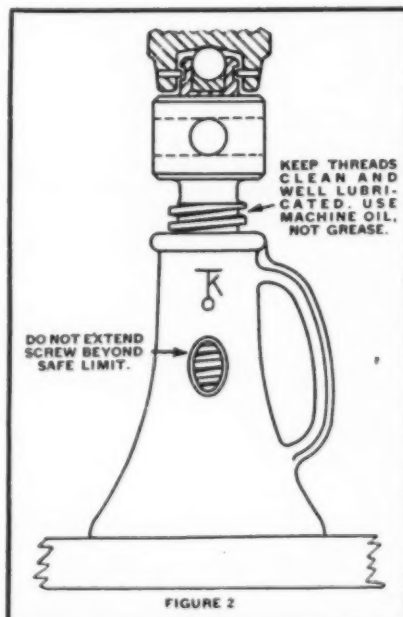

FIGURE 2
various forms such as the regular bell bottom screw jack, locomotive screw jack, the journal jack, standard speed jack, push-pull jack, shoring jack, machinist's jack, trench brace and mine roof jack, care should be taken to keep the screws clean and well lubricated. Continued exposure to grit and dirt causes abrasion of the screw, wearing the threads so that play develops between it and the corresponding collar threads. (See Fig. 2)
to grease. (See Fig. 2) Be sure bearing under cap is lubricated regularly, using grease. (See Fig. 9)
- (2) Do not extend screw beyond the safe limit. Roughly not more than two-thirds of the screw is to be run out. (See Fig. 2) On Simplex screw jacks, do not extend screw beyond safety peephole in base.
- (3) Use good blocking under base and above cap, if necessary. Having a block under only half of the base can be disastrous.
- (4) Clean screw and housing or base